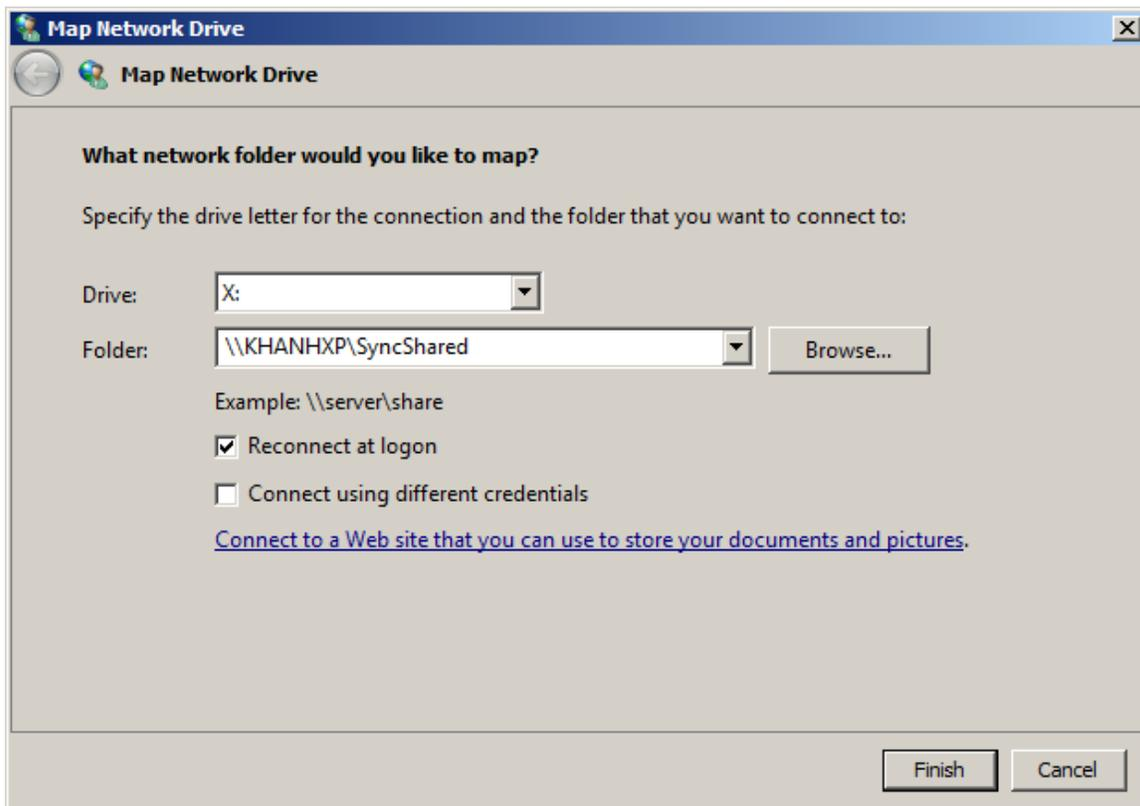

Figure 42
4. Map a network drive to the shared folder on the Master computer. (Figure 42)